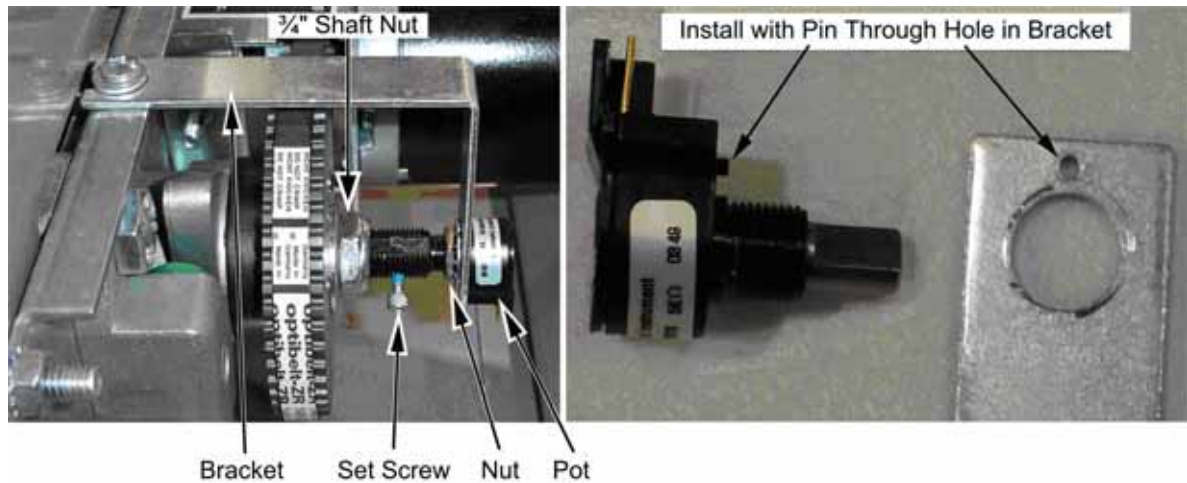
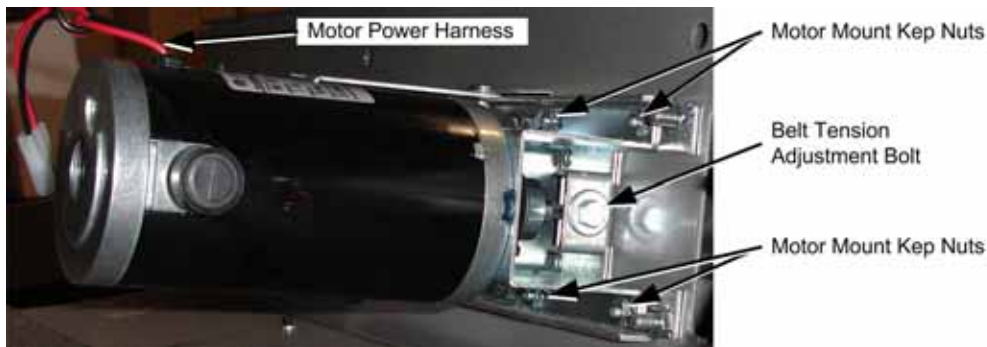

Figure 6. Replacing the 5 K $\Omega$  Steering Pot
Figure 7. Servicing the Steering Motor
To replace a pot, refer to Figure 6 and perform the following steps:
4. Reverse these steps to install the new pot. Install the pot with the plastic pin through the small hole in the bracket, as shown in Figure 6. Use Loctite to ensure the set screw is secure.
Refer to Figure 6 above, and Figure 7, and perform the following steps to remove the force-feedback belt for repair.
2. Using a 7/64 Allan wrench, loosen the set screw from the steering column and remove the bracket with the pot attached (see Figure 6).
3. Loosen the four (4) 3/8" motor mount Kep nuts that secure the steering motor to the frame (see Figure 7).
4. Using a 10mm socket wrench, loosen the belt tension adjustment bolt several turns until you can slip the belt off of the motor and steering gears (see Figure 7).
6. To replace the motor, remove the four (4) 3/8" Kep nuts that you loosened in step 2, and remove the motor.
1. Tighten the tension adjustment bolt on the motor assembly, shown in Figure 7, until the belt is fully stretched, and then loosen the bolt by 1/2 turn.